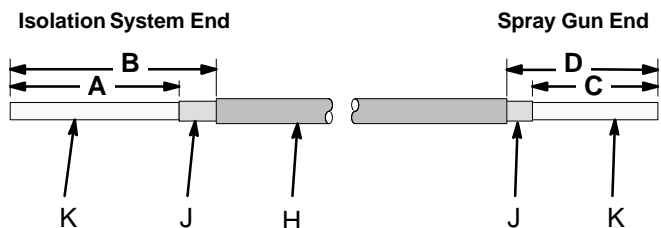

Fig. 44
Damaged hoses or hoses that have a "pin-hole" dielectric failure, close to the end of the hose, can be repaired by cutting away the failed portion and restripping the hoses to the dimensions shown in Fig. 44.
- Cut off the damaged end of the hose. If the hose has a pin-hole failure, strip back the outer hose jacket (H) and the conductive layer (J) about 12 inches (105 mm) on each hose end. Look for the failure point, which will be a very small pin-hole, discolored due to arcing. Continue stripping back the hose until the failure point is found.
- Carefully cut through the outer hose jacket (H) and peel it back about 12 inches (105 mm). **Do not** cut into the conductive layer (J) of the hose.
- Cut through the first 1/2 inch (12.7 mm) of the conductive hose layer (J) to create an edge to hold onto. Peel back the conductive hose layer by unwrapping it in a spiral pattern. Cut it off at the dimension shown in Fig. 44.
- Cut off the inner hose layer (K) to the dimension shown in Fig. 44.
- Inspect the hose for any nicks or cuts. Any nicks or cuts into the inner hose layer (K) will weaken the dielectric strength of the hose and shorten the service life. Repeat the above procedure if any damage is found.